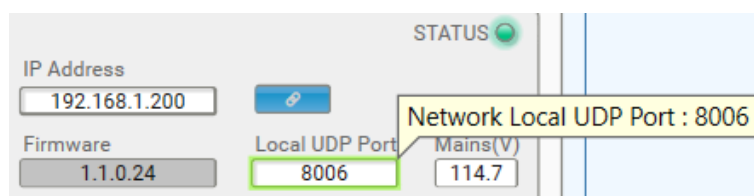

Figure 4 – Screenshot of Local UDP Port text field.
4. Enter a local UDP Port between 1024 and 49151. If controlling multiple Mezzo, each instance of the plug-in must have a different local UDP Port (Figure 4).